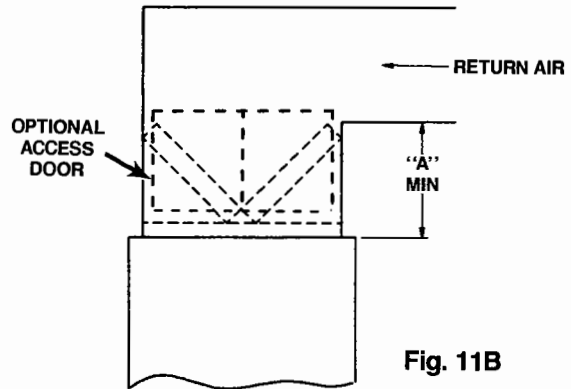

Fig. 11B
2. Install the return air plenum on the furnace. For proper filter performance, the sides of the plenum must be at least as tall as dimension A shown below. See Figure 11B.
3. To install the filters, first **MAKE CERTAIN THE AIRFLOW DIRECTION ARROW POINTS TOWARDS THE FURNACE**. Then insert the filters from the left side of the blower. Starting with the right filter, push the filter into the plenum so that the bottom of the filter fits into the filter rack and the upper edge rests against the side of the plenum. Then repeat with the left filter. See Figure 11B.